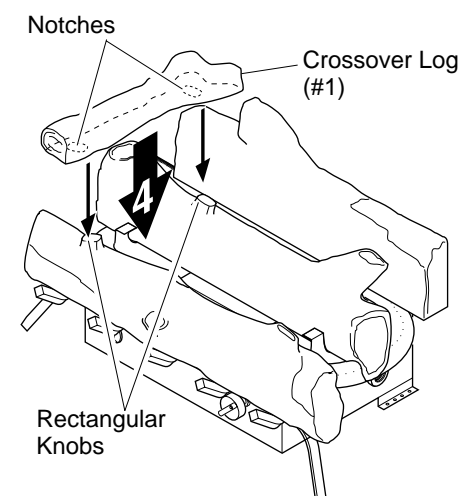

Figure 21 - Installing Crossover Log (#4)
4. Locate the notches in the bottom of the crossover log (#4). Place the crossover log on top of the middle log and front log. Make sure the notches of the crossover log lines up with rectangular knobs on top of the middle and front logs (see Figure 21).